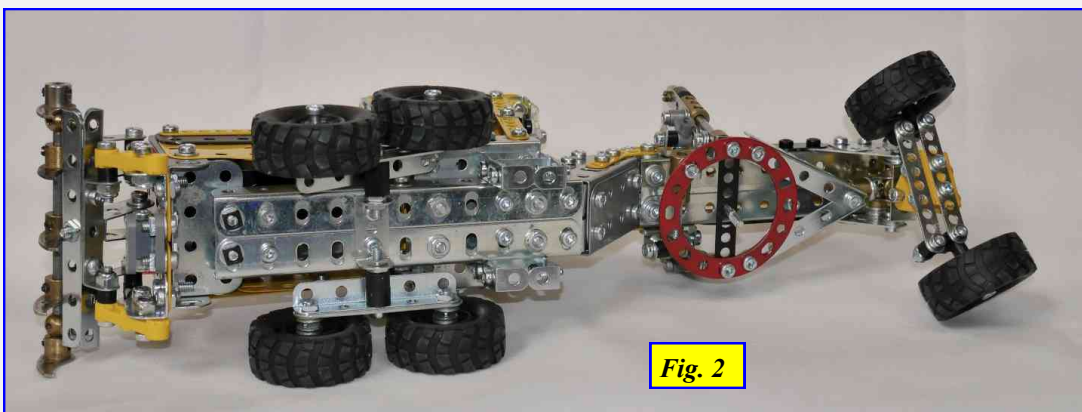

Fig. 2
Chassis: The main chassis under the engine is made from two 5 $\frac{1}{2}$ " Angle Girders (AG) joined by an 5 $\frac{1}{2}$ " Flat Girder (Fig.2). The upward kink in the chassis comprises 2 Girder Brackets, 2" Flat Girders and Obtuse Corner Brackets connected to the 5 $\frac{1}{2}$ " AGs by Obtuse Angle Brackets. Two more Obtuse Angle Brackets at the top of the kink bolt to two 4 $\frac{1}{2}$ " AGs up to the front of the chassis where a 1" by $\frac{1}{2}$ " Double Angle Bracket (DAB) holds the AGs together. From Fig. 1 you can see other parts included to obtain the tapered shape with 1 $\frac{1}{2}$ " Corner Brackets at the front. Another 1" by $\frac{1}{2}$ " DAB at the bottom holes of these Corner Brackets provides the lower bearing for the front wheel frame's pivot. A Threaded Coupling provides the upper bearing and a 1 $\frac{1}{2}$ " Axle Rod is locked into this coupling. The front axle can turn about a Collar fixed to the lower end of the vertical axle. The front wheels can steer, as seen in Fig.2, but are not connected to the steering wheel. Yellow Flat Girders provided in the set complete the front and top surfaces of the frame.
another 1"x $\frac{1}{2}$ " DAB bolted the main chassis members (Fig.2).